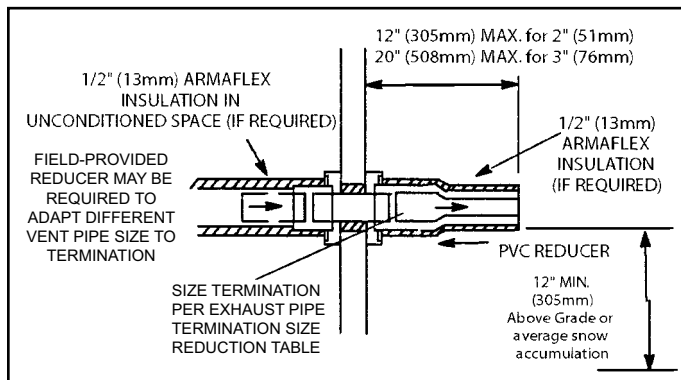

Figure 38. Non-Direct Vent Field Supplied Wall Termination
NOTE: Flue gas may be slightly acidic and may adversely affect some building materials. If any vent termination is used and the flue gases may impinge on the building material, a corrosion-resistant shield (minimum 24 inches square) must be used to protect the wall surface. If the optional tee is used, the protective shield is required. The shield should be constructed using wood, plastic, sheet metal or other suitable material. All seams, joints, cracks, etc. in the affected area should be sealed using an appropriate sealant. See Figure 38.
5. On field supplied terminations for side wall exit, exhaust piping may extend a maximum of 12 inches (305 mm) for 2" PVC and 20 inches (508 mm) for 3" (76 mm) PVC beyond the outside wall. Intake piping should be as short as possible. See Figure 38.
6. On field supplied terminations, a minimum distance between the end of the exhaust pipe and the end of the intake pipe without a termination elbow is 8" and a minimum distance of 6" with a termination elbow. See Figure 38.
7. If intake and exhaust piping must be run up a side wall to position above snow accumulation or other obstructions, piping must be supported every 24" (610 mm) as shown in Figure 38.